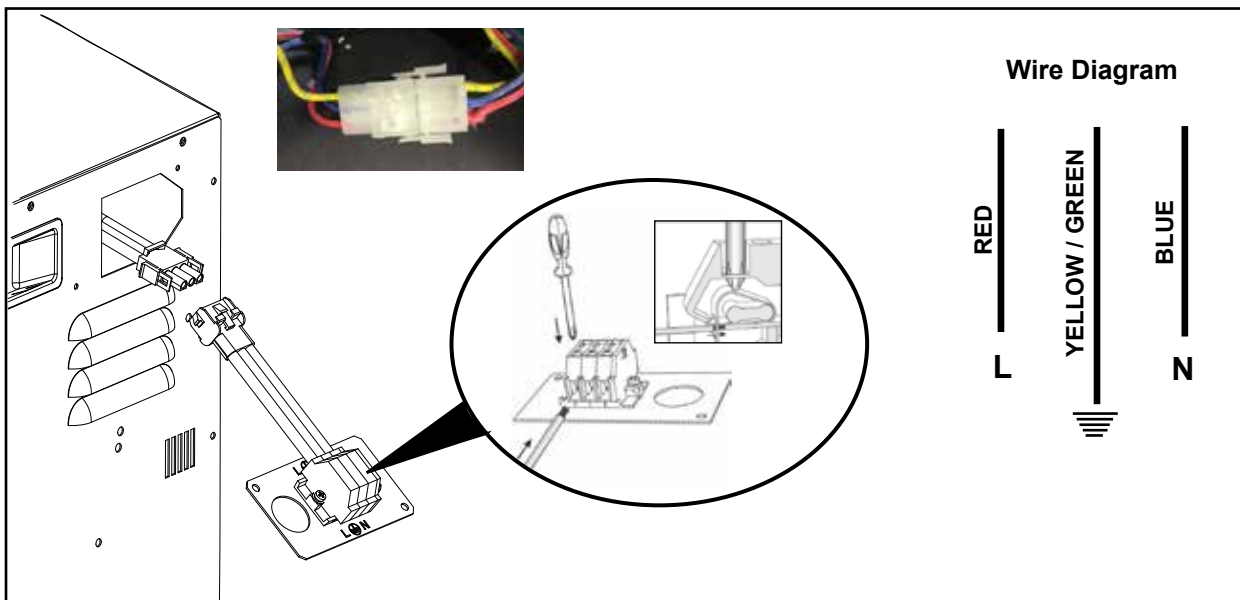

Figure 4.5 Wiring Hard Wire Terminal Block
5. Connect the three conductor wire connector from the appliance to the connector on the hard-wire junction block. See Figure 4.5.